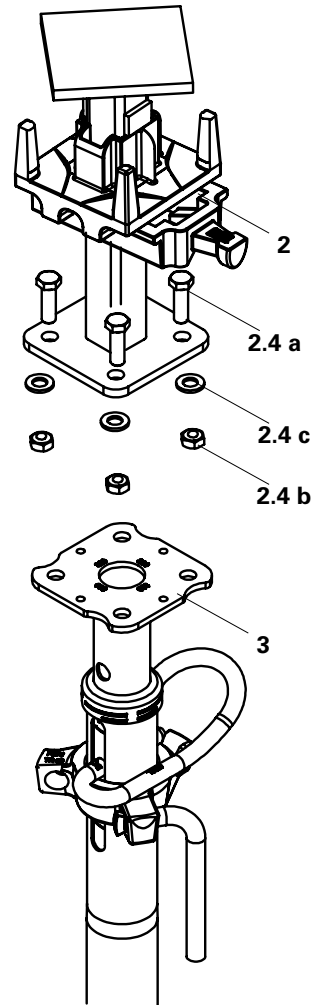

Fig. A2.05
- Use M12 bolt (2.4 a), nut (2.4 b) and washer (2.4 c) to attach the prop (3) to the drophead (2). (Fig. A2.05)